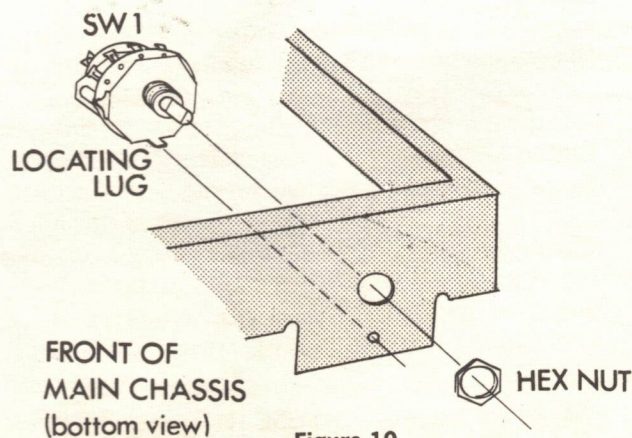

Figure 10
- Install switch SW-1 (SRW44-9-1) in the hole on the front apron of the chassis marked SW-1. For correct positioning, line up the locating lug with the small hole next to SW-1. Thread on a brass hex nut to keep the switch in place. Tighten the nut only enough to securely hold the switch. (See Figure 10.)